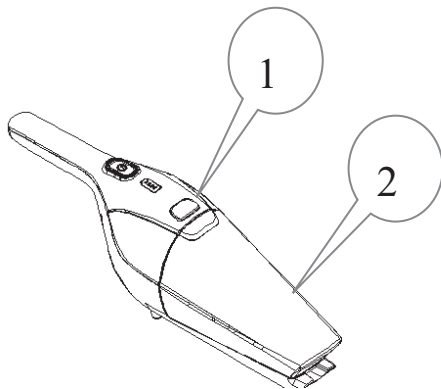

Fig. 10
1. Detach the accessory on the sub-unit, and then press the release button (1) to make dust cup(2) be separated from the sub-unit (see Fig.10).